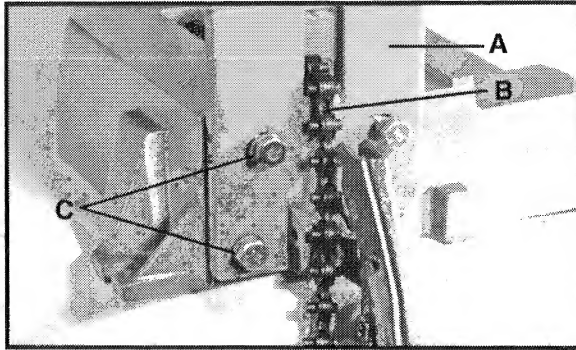
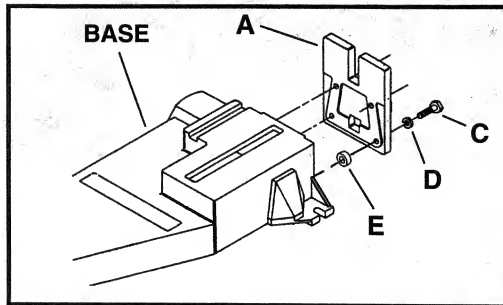

Fig. 4
Fig. 4A
4. Position clamp and fence assembly (A) Fig. 4, to the front of the base, and pass chain (B) up through slot in the work surface, as shown. Secure the clamp and fence assembly to the front of the base using the four $\frac{5}{16}$ " x 1" long bolts, (C) Fig. 4A, $\frac{5}{16}$ " lock washers (D) and $\frac{1}{4}$ " thick spacers (E). Tighten bolts firmly.